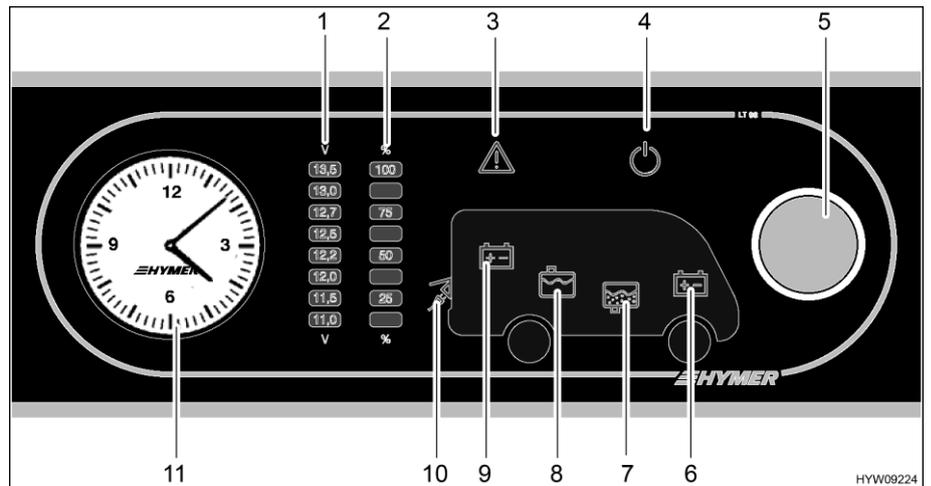

Fig. 138 Panel (LT 98)
The rotary knob (Fig. 138,5) switches the panel and the 12 V power supply to the living area on and off.
Switching on: ■ Press the rotary knob (Fig. 138,5): The 12 V living area power supply is switched on. The 12 V indicator lamp (Fig. 138,4) lights up.
Switching off: ■ Press the rotary knob (Fig. 138,5): The 12 V living area power supply is switched off. The 12 V indicator lamp (Fig. 138,4) goes - off.
Use the rotary knob (Fig. 138,5) for reading the voltage of the living area battery as well as that of the starter battery. The voltage is displayed on the indicator scale for battery voltage (Fig. 138,1).
Displays: ■ Turn the rotary knob (Fig. 138,5) until the symbol for the desired battery lights up.
Living area battery voltage is displayed (Fig. 138,9)
Starter battery voltage is displayed (Fig. 138,6)
- Read the voltage from the indicator scale for battery voltage (Fig. 138,1).
Use the rotary knob (Fig. 138,5) for checking the fill level of the water tank or the waste water tank. The fill level is displayed on the indicator scale for the tank fill level (Fig. 138,2).
- Turn the rotary knob (Fig. 138,5) until the symbol for the desired tank lights up.
The level of the water tank is displayed (Fig. 138,8)
The level of the waste water tank is displayed (Fig. 138,7)
- Read the level from the indicator scale for the tank fill level (Fig. 138,2).
The Alarm warning light (Fig. 138,3) flashes if set limit values are exceeded or fallen below.
The Alarm warning light (Fig. 138,3) flashes if the battery voltage falls below 11 V. If the 12 V power supply is switched on, the relevant battery symbol (Fig. 138,6 or 9) also lights up and "11.0" starts flashing on the indicator scale for battery voltage (Fig. 138,1). Danger of total discharge.
The Alarm warning light (Fig. 138,3) starts to flash and the corresponding tank symbol (Fig. 138,7 or 8) lights up as soon as the water tank is empty or the waste water tank is full.
The 230 V indicator lamp (Fig. 138,10) illuminates whenever line voltage is available at the transformer/rectifier input.